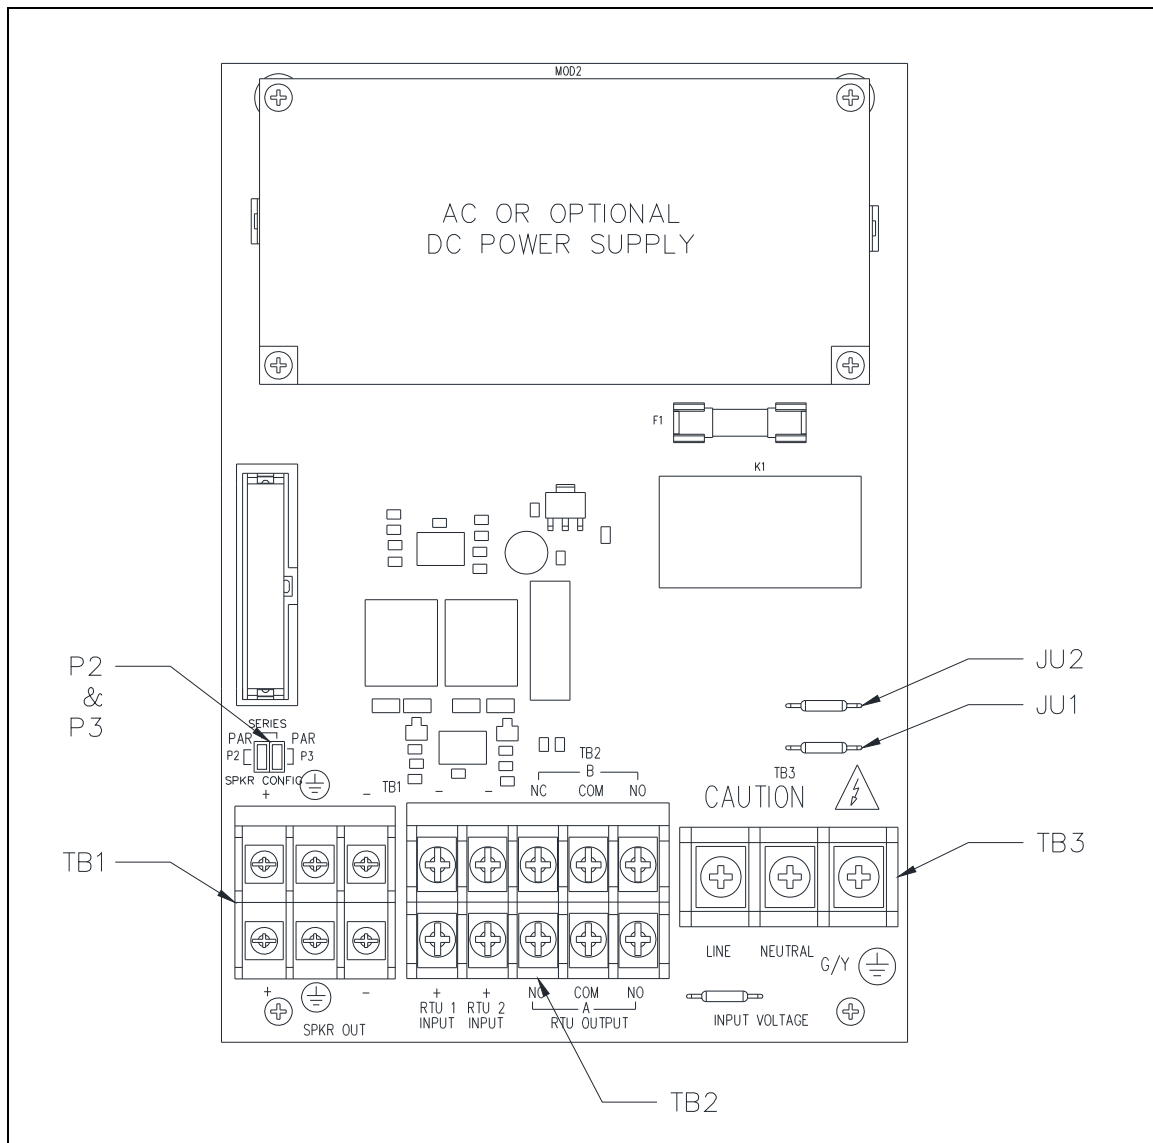
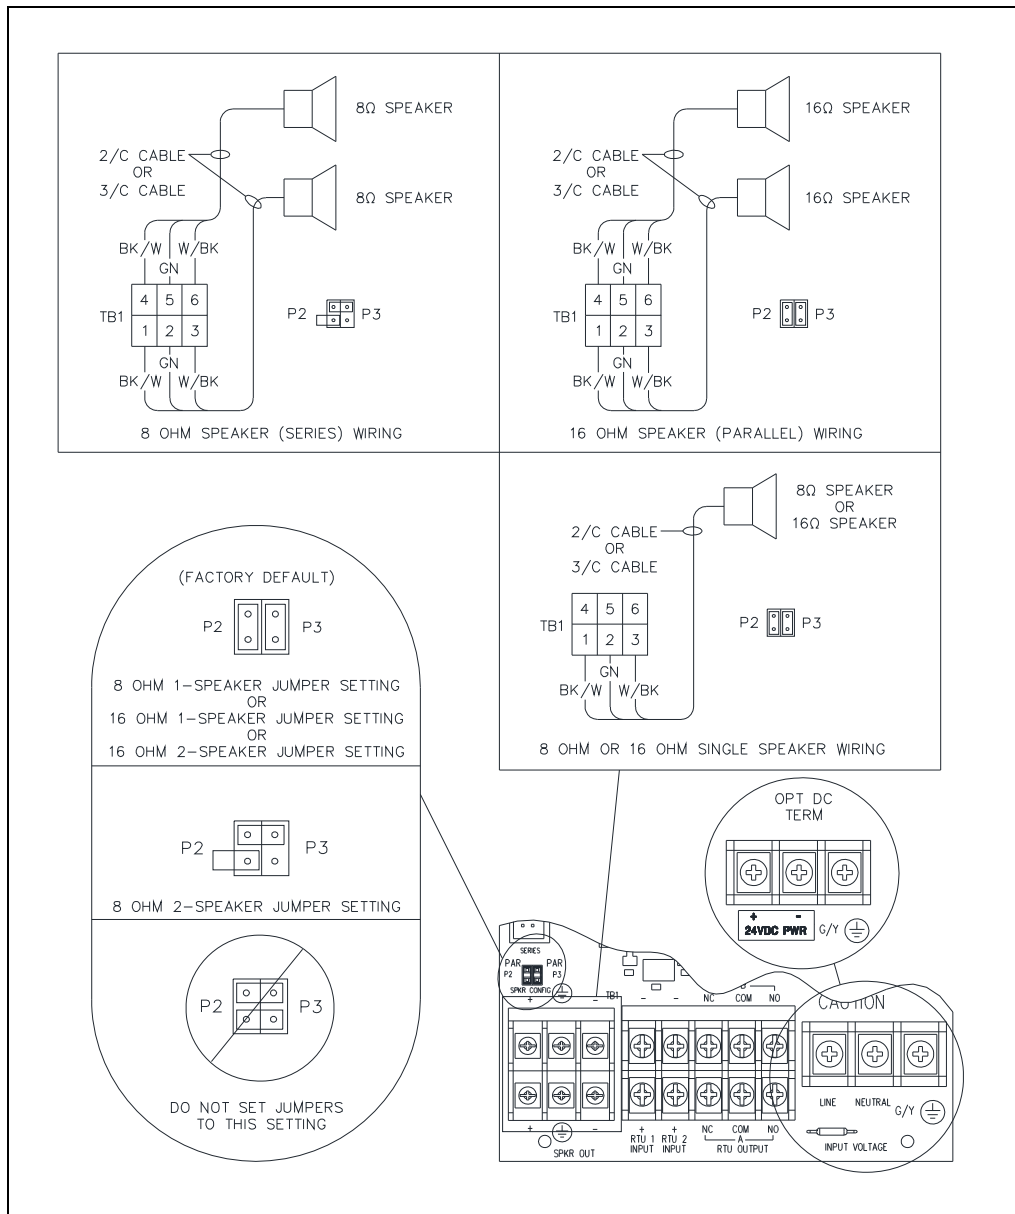
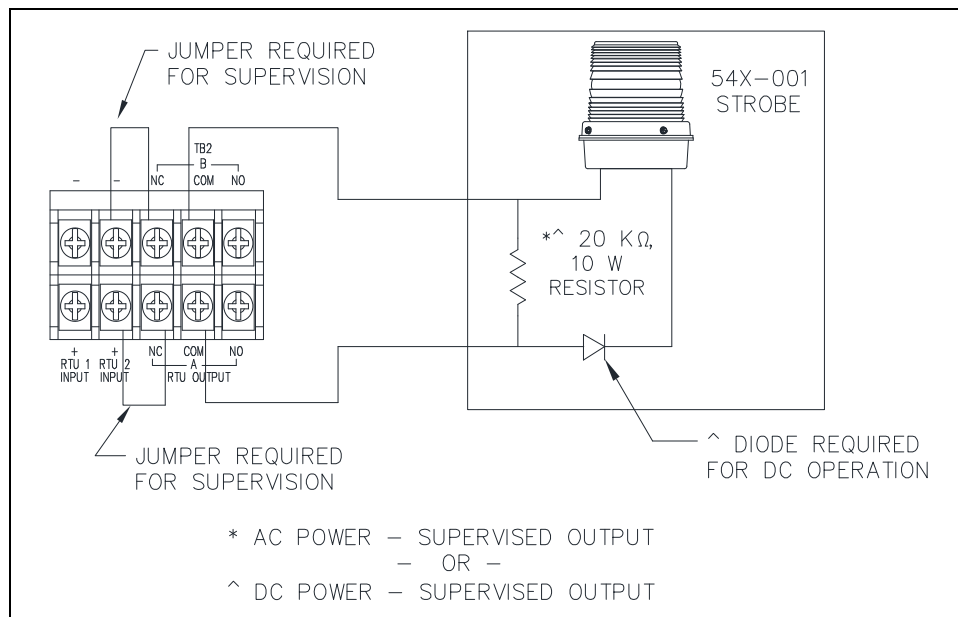

Figure 4. SP2 Standard Termination PCBA
Figure 5. 8/16-ohm Speaker Impedance Configuration and AC/DC Termination at TB3
Figure 7. Supervised Output Wiring—TB2
5. Configure the speaker jumpers; P2 and P3, for the appropriate impedance for use with 8-ohm or 16-ohm speakers (see Figure 4 and Figure 5).
The termination PCBA contains two auxiliary RTU inputs. Terminate the inputs at terminal block TB2 (see Figure 4).
Two form C contacts are provided to power a beacon (see Figure 7). Terminate the outputs at terminal block TB2 on the termination PCBA (see Figure 4). Configure the outputs for dry contact use by removing jumpers JU1 and JU2.
5. Install a 20-kilohm 10-watt resistor across the terminals of the beacon (see Figure 7).
6. Install jumpers at terminal block TB2 to enable cable monitoring (see Figure 7).
The ac or optional dc power supply is on the termination PCBA. Connect the local ac or dc power source to terminal block TB3 (see Figure 4 and Figure 5):